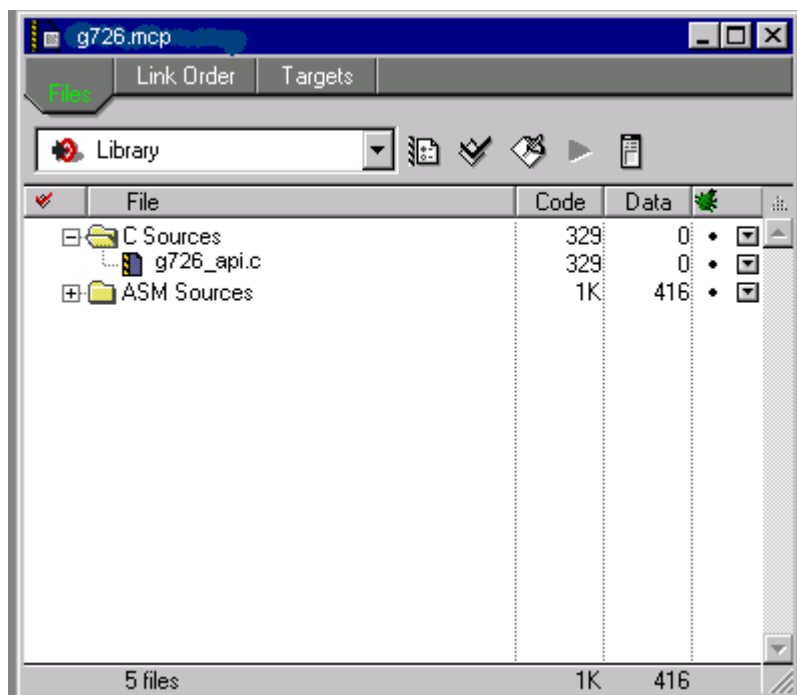

Figure 4-2. G.726 Project
Step 1. Open the *g726.mcp* project, shown in Figure 4-2: